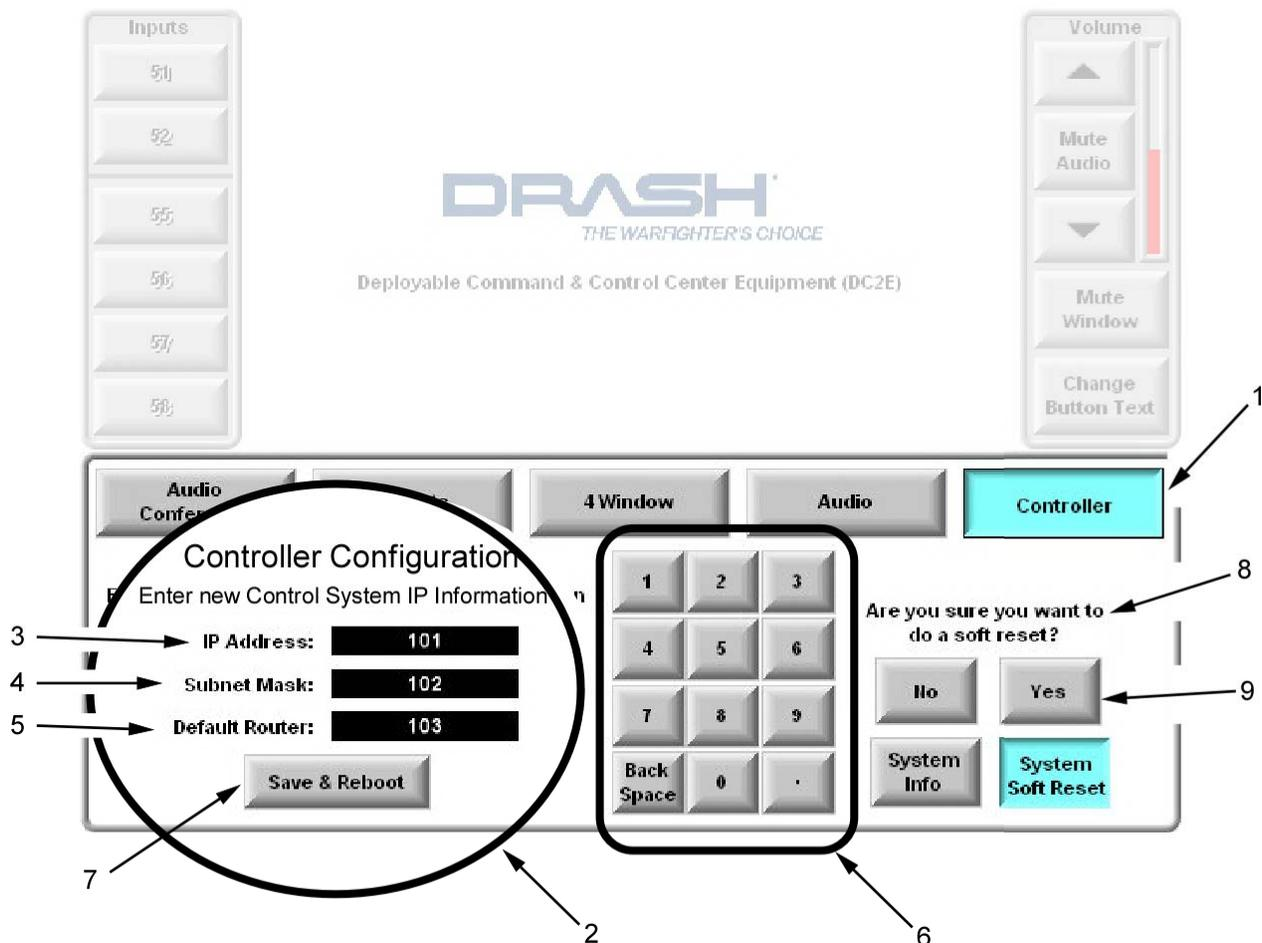
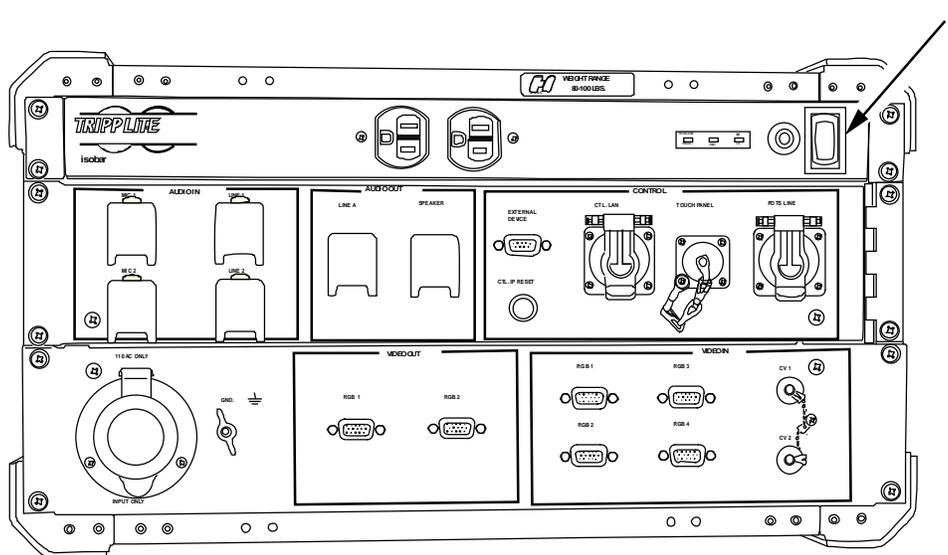

Figure 14. Access & Modify System Information.
Figure 21. Main Power Supply Switch.
1. Press and release the **Controller** button (Figure 14, Item 1) to access the Controller Panel.
2. Locate the Configuration windows (Figure 14, Item 2) on the left side of the Controller Panel.
3. Press the IP Address display box (Figure 14, Item 3) to access IP number.
4. Use the numeric touch pad (Figure 14, Item 6) in the center of the Controller Panel to type in new IP address.
6. Repeat steps three through five to enter the Subnet Mask (Figure 14, Item 4) and Default Router (Figure 21, Item 5) addresses if desired.
7. Press the Save & Reboot button (Figure 14, Item 7). The system will prompt (Figure 14, Item 8) for confirmation to reboot. Press the Yes button (Figure 14, Item 9) to reboot. Press the No button to cancel the reboot and the new addresses will not be initialized.
2. Set the Main Power supply ON/OFF switch (Figure 21, Item 1), located on the top right rear of the AVCS (MINI), to 'OFF'.